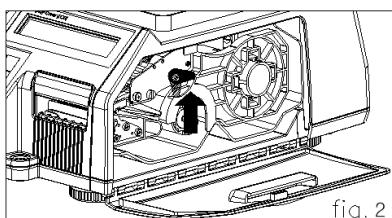

fig. 2
- 2) Lift up TPH lever as fig 2.